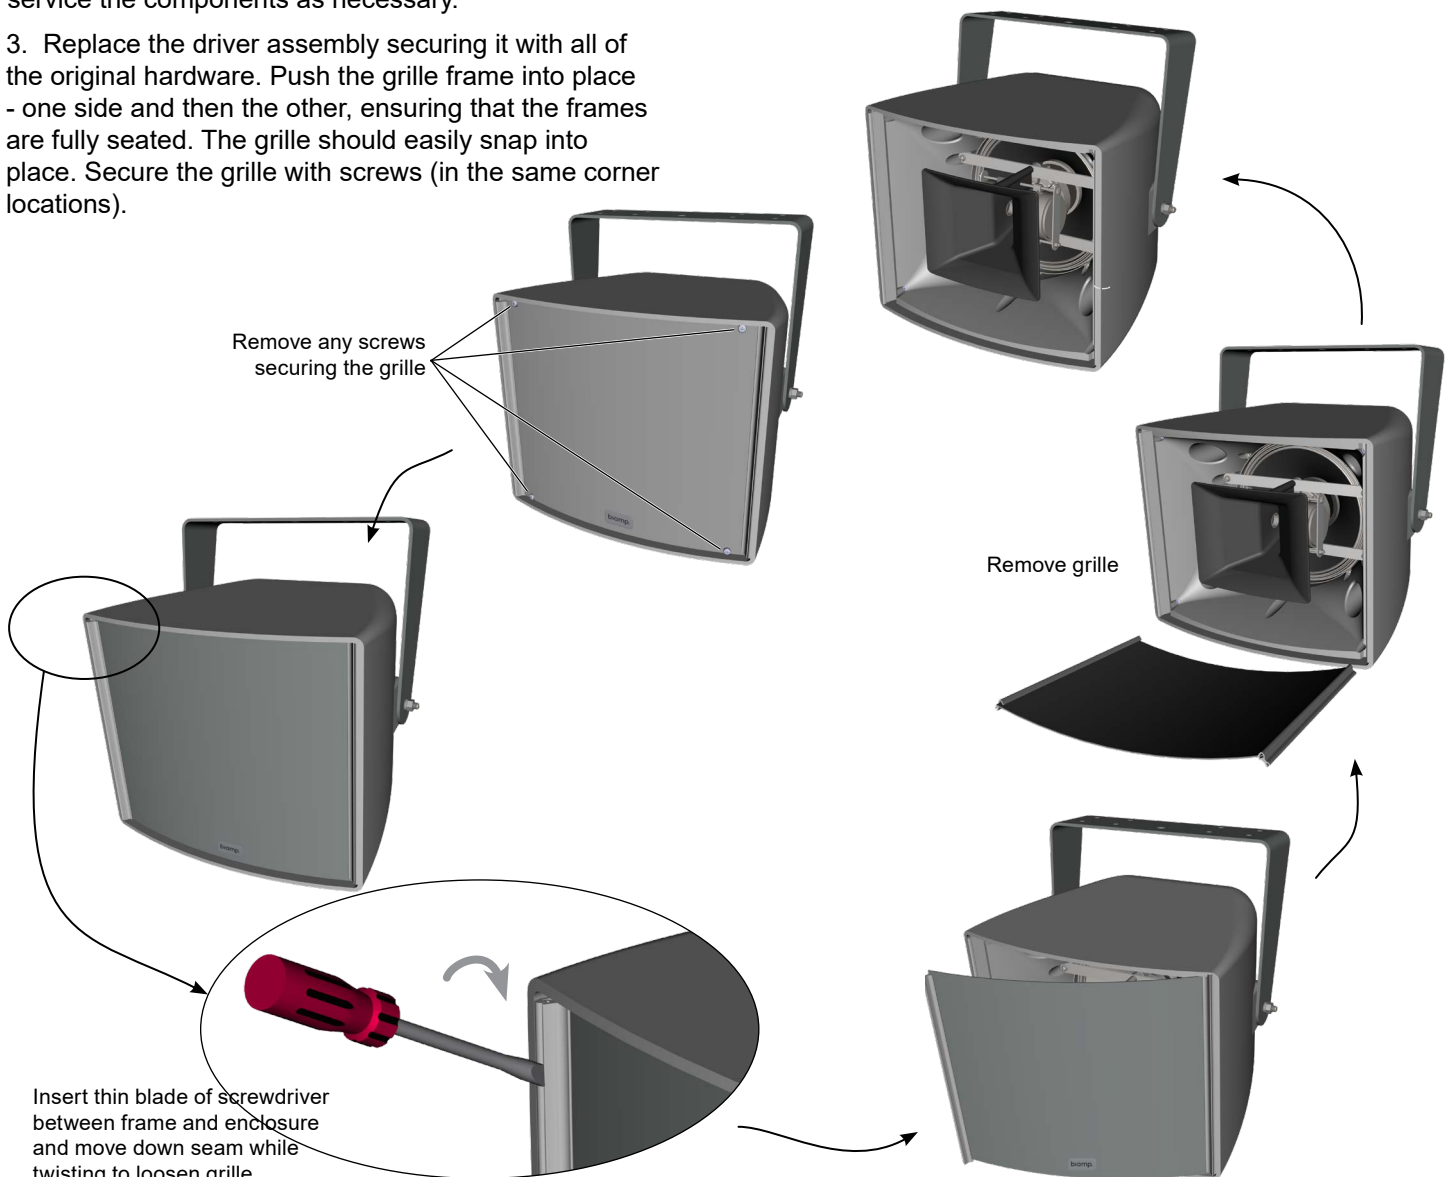

Figure 7. Remove grille
1. Remove the grille. Refer to illustrations in Figure 7. Remove the screws securing the grille to the enclosure. The grille frame locks into the enclosure frame. Carefully insert a thin flat bladed screwdriver between the grille frame and the enclosure frame while gently pressing down on the grille. Starting at the top and moving down, twist the blade to release the grille from the frame. Repeat as necessary to release the other side and remove the grille.